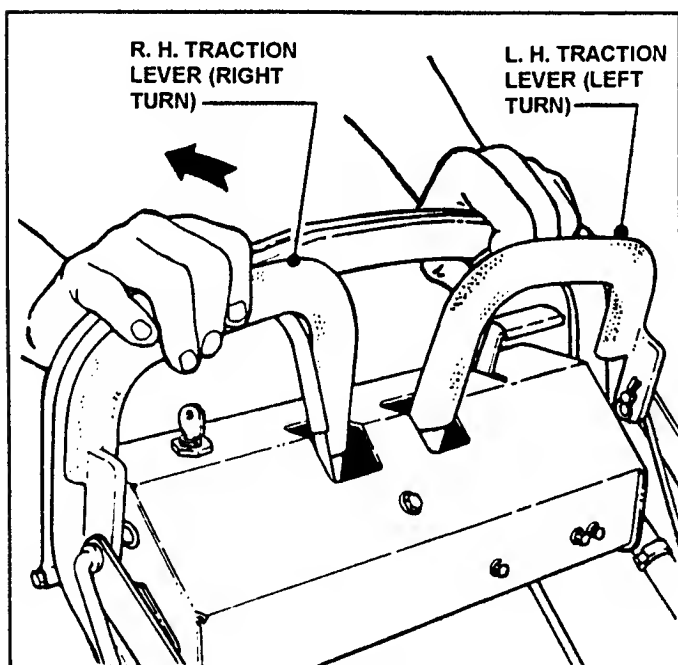
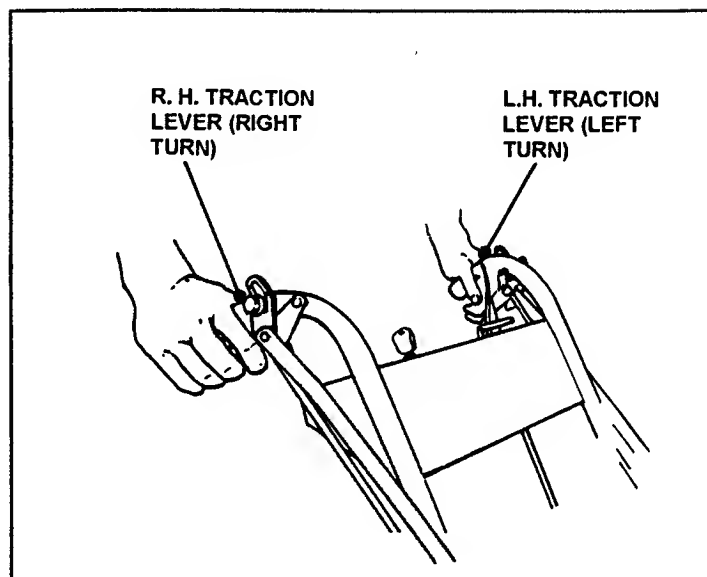

FIGURE 12
FIGURE 13
12. The mower is **TURNU**d by declutching wheel drive belts while engaging wheel brakes - turn left by squeezing the left hand traction lever or turn right by squeezing the right hand traction lever. See figure 12 looped handle, or figure 13 pistol grip. The more pressure applied while squeezing the traction lever, the sharper the mower will turn.